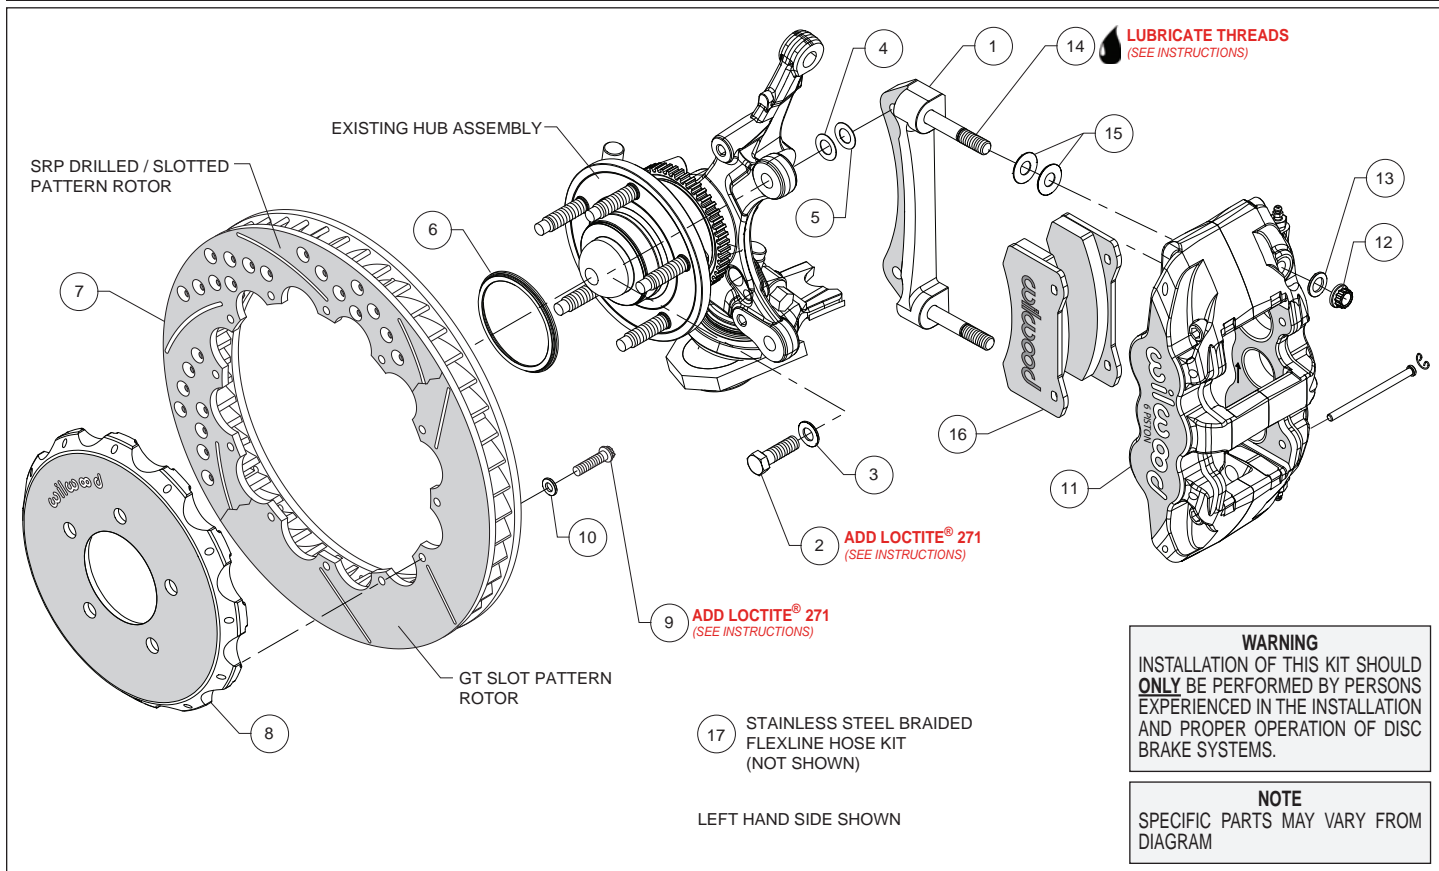
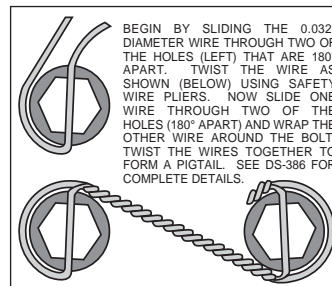

Figure 1. Typical Installation Configuration
Figure 4. Safety Wire Diagram
**Assembly Instructions** (numbers in parenthesis refer to the parts list and Figure 1 on the preceding pages):
- The caliper mount bracket (1) should initially be installed with clean, dry threads on the mounting bolts. Orient the bracket, as shown in Figure 1 and Photo 1, and install using bolts (2) and washers (3). Initially place one .033" thick shim (4) on each bolt between the bracket and upright, Figure 1. Temporarily tighten the mounting bolts. **NOTE:** *The bracket must fit squarely against the mount bosses on the upright.* Inspect for interference from casting irregularities, machining ridges, burrs, etc. Later, after the caliper alignment has been checked, the mount bolts will be secured using red *Loctite*® 271.
- Orient the rotor (7) and the hat (8) as shown in Figure 1 and Photo 2. Attach rotor to hat using bolts (9) and washers (10). Using an alternating sequence, apply red *Loctite*® 271 to the threads, and torque to 155 **in-lbs**. For an added measure of security, the bolts may be safety wired using standard 0.032 inch diameter stainless steel safety wire as shown in Figure 4. Refer to Wilwood's data sheet DS-386 (available at [www.wilwood.com/Pdf/DataSheets/ds386.pdf](http://www.wilwood.com/Pdf/DataSheets/ds386.pdf)) for complete safety wire installation instructions.
- Slide the rotor registration adapter (6) onto the axle hub with the smaller O.D. facing toward the rotor/hat, Figure 1 and Photo 3.
- NOTE:** *This kit contains distinct right and left hand calipers that must be mounted in a specific direction, as described below.* Lubricate the caliper mounting studs (14) with lightweight oil.
Initially place two .030" thick shims (15) on each stud between the caliper and the bracket, as shown in Figure 1 and Photo 4. Mount the caliper (11) onto the bracket (1) using lock nuts (12) and washers (13), Figure 1. Temporarily tighten the lock nuts. Ensure that the caliper is mounted so the largest pistons are at the rotor exit end of the caliper, in relation to the direction of the rotor. View the rotor through the top opening of the caliper. The rotor should be centered in the caliper, Photo 5. If not, adjust by adding or subtracting shims (4 and/or 5) between the bracket and the upright. Always use the same amount of shims on each of the two mounting bolts.
- Remove the two pad retaining pins from the caliper (11) by carefully popping out the pin retaining clips and sliding out the pins. Insert the brake pads (16) into the caliper from the bottom, Figure 1 and Photo 6. With the friction material facing the rotor, secure the brake pads in place with the pad retaining pins and clips, Photo 7. Reinstall the caliper onto the caliper mounting bracket and temporarily tighten the lock nuts. Check that the top of the brake pad is flush with the outside diameter of the rotor, Photo 8. If not, adjust by adding or subtracting shims (15) between the caliper and the bracket. After the caliper pad height is set, torque the caliper lock nuts (12) to 47 ft-lb.
• **NOTE:** OEM rubber brake hoses generally cannot be adapted to Wilwood calipers. The caliper inlet fitting is a 1/8-27 NPT. Install Wilwood's stainless steel braided flexline hose kit (17), P/N 220-9111 included with this kit. **Carefully route hoses to prevent contact with moving suspension, brake or wheel components.** **NOTE:** Wilwood hose kits are designed for use in many different vehicle applications and it is the installer's responsibility to properly route and ensure adequate clearance and retention for brake hose components.